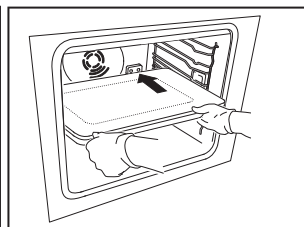

Fig. 2
2. Use both hands to push the induction plate up to the electrical plug (Fig. 2).